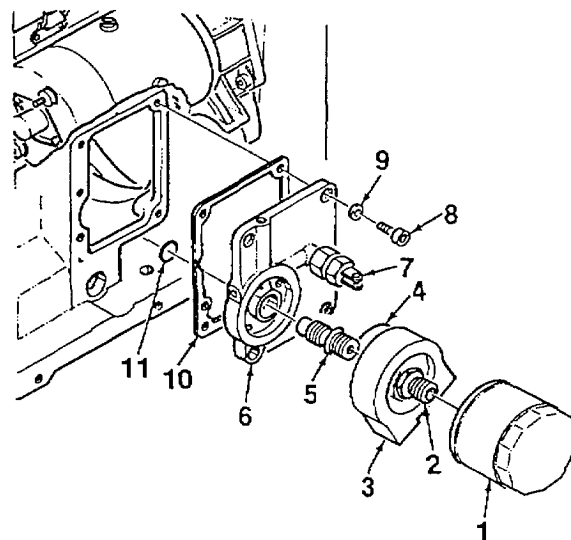

Figure 4-41. Oil Pressure Valve and Cover
2. Using oil filter wrench, remove oil filter (1, Figure 4-41) from oil filter fitting (2). Discard oil filter.
3. Remove oil filter fitting (2) and filter adapter (3). Remove and discard gasket (4, on rear of adapter).
4. Install two 3/4 inch SAE thread jam nuts on oil pressure valve (5). Remove valve from oil cover (6) by wrenching jam nuts.
1. Apply grease to oil seal (11, Figure 4-41) and install in position on oil cover (6). Mate new cover gasket (10) to oil cover (6). Mate oil cover to engine crankcase and secure using four screws (8) and washers (9).
2. Install oil pressure valve (5) into oil cover (6).
3. Install oil pressure switch (7) and connect electrical wires.